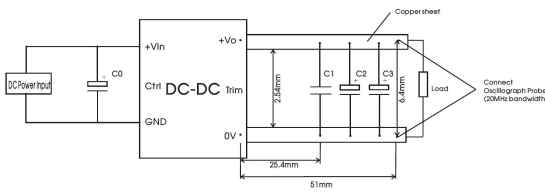

Fig.1
Note: ①The "Tip and barrel method" is used for ripple and noise test, for details please refer to Fig.1.
All the DC-DC converters of this series are tested before delivery using the recommended circuit shown in Fig.1.